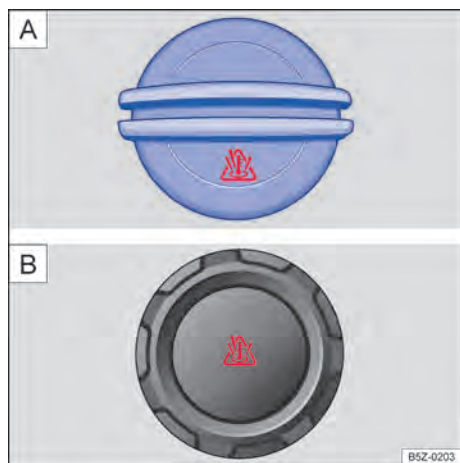

Fig. 191 On the engine compartment: **A** cap of the engine coolant expansion reservoir (variant 1) or **B** cap of the engine coolant expansion reservoir (variant 2)
- The coolant expansion tank has the ⚠ symbol on its cap → Fig. 191.